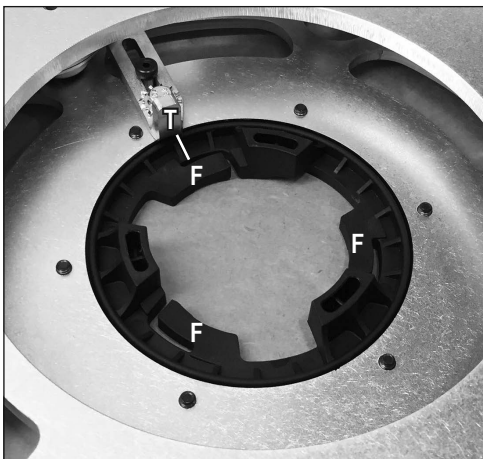

FIG. 4
4. Orient the nylon clutch (P/N 403978) so that any one of the (3) clutch fingers (F) lines up with the locking tab (T). See Figure 4.
5. Tighten the (6) screws to 25 ft.lbs using a 3/16" Allen wrench.